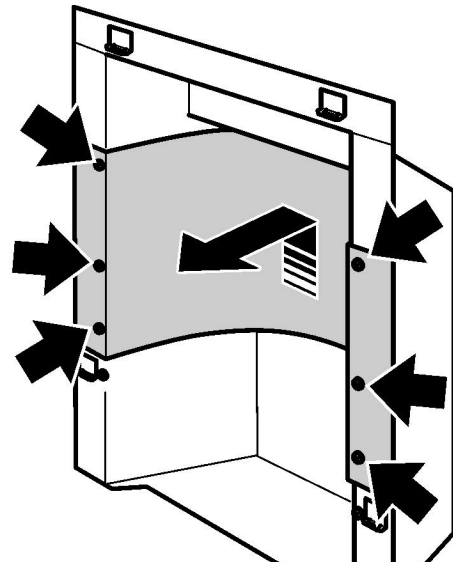

Figure 30. Removal of inner panel
4. Remove the six screws from the side of the inner panel (See figure 30).